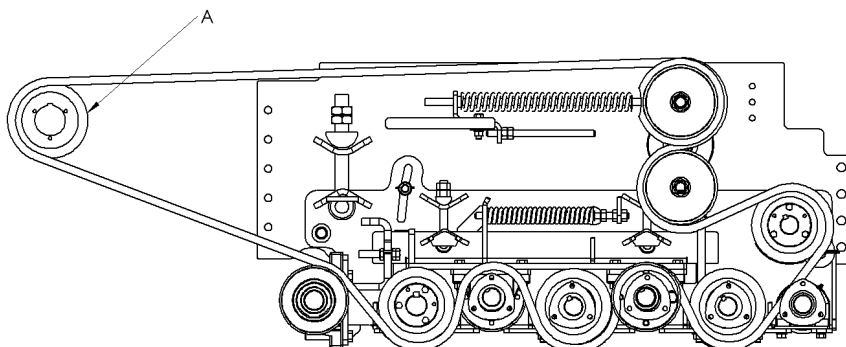

Figure 7-24: Grabroll Speed Adjustment
4. Remove the sheave (A), shown in Figures 7-24, by first removing sheave bolts.